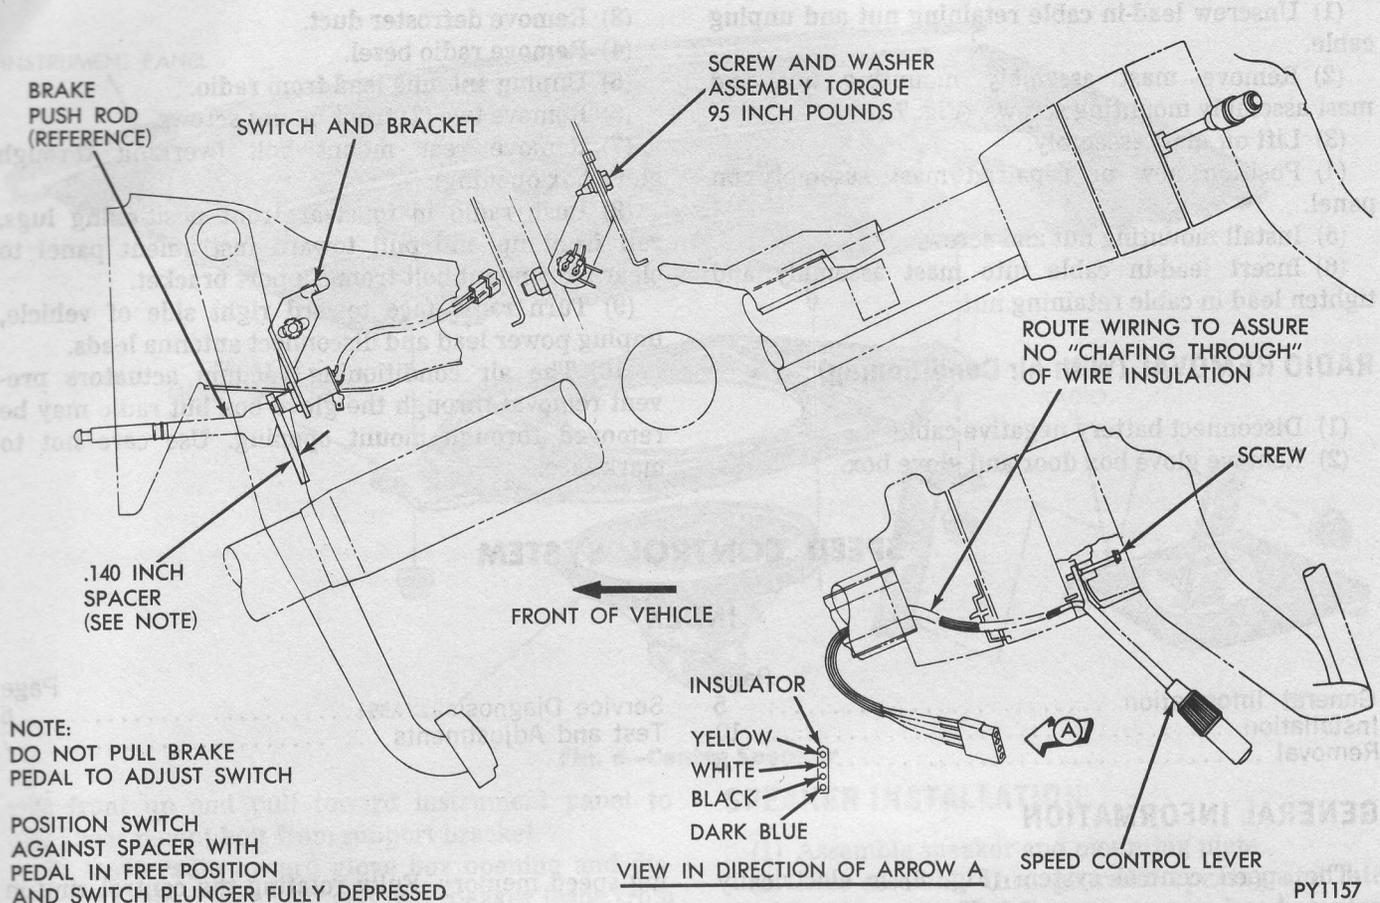
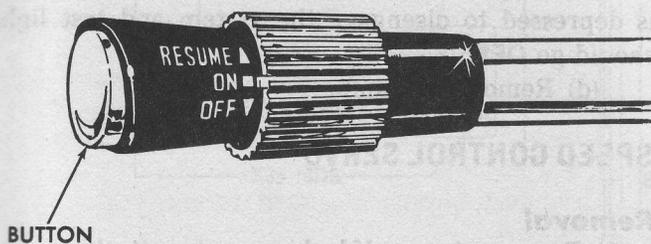

Fig. 8—Speed Control System
Fig. 9—Speed Control Switch
The speed control system (Fig. 8) is electrically actuated and vacuum operated. The turn signal lever on the steering column incorporates a CONTROL RING which when rotated, turns the system OFF, ON or to RESUME SPEED (Fig. 9). A SPEED SET button is located in the end of the lever. This device is designed to operate at speeds above approximately 30 M.P.H.
Refer to Figure 8, for proper switch adjustment as follows:
(1) Disconnect battery negative terminal at battery negative post and speed control connector at lower end of column.
(2) Remove steering wheel. See Group 19 "Steering".
(3) Remove turn signal switch and lever attaching screw.
(4) Remove steering column wire cover plates (two) and remove wires and terminals from connector with Wire Harness Tool.
**CAUTION: Check color coding of wires to insure they are installed in the proper connector at reassembly. See Figures 8 and 12.**
(5) Tape terminals, then turn direction indicator lever sideways and pull lever up and wires out through opening between column and tube.